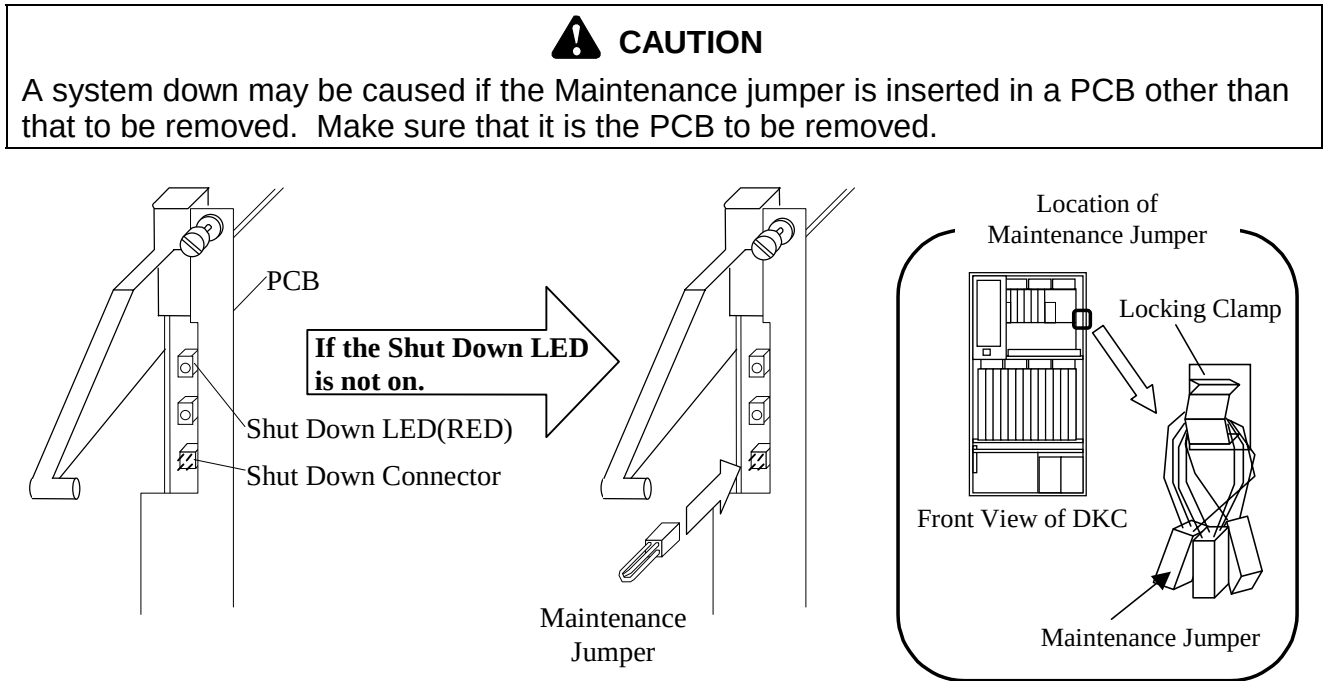

Fig. 4.3.1-4 Location of the Shut Down LED
- a. While referring to Fig. 4.3.1-4 and Table 4.3.1-6, check the Shut Down LED on the Cache Memory PCB in the Rear Logic Box. Connect the Maintenance Jumper to the Shut Down Connector if the Shut Down LED is not on.